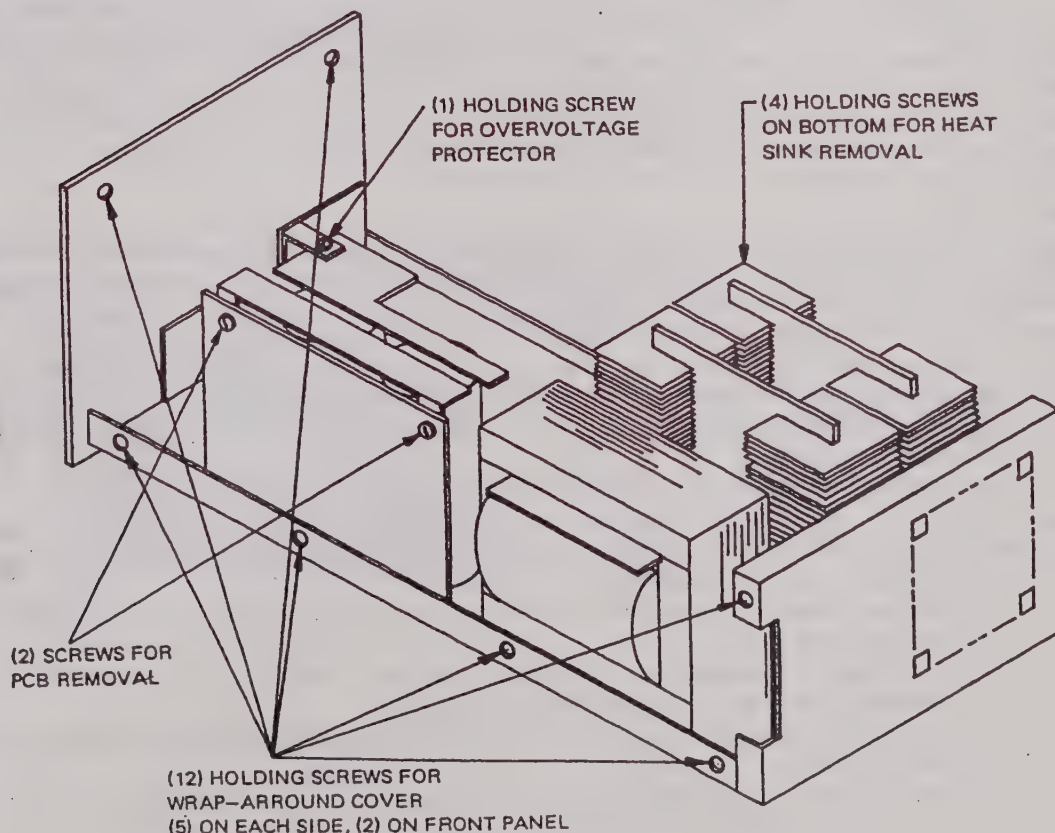

FIG. 5-1 DISASSEMBLY, JQE HALF-RACK MODELS.
5-3 DISASSEMBLY (Refer to FIG. 5-1)
- a) **COVER REMOVAL** The wrap-around cover may be taken off by loosening and removing its twelve (12) holding screws, five (5) on each side and two (2) on the front panel.
- b) **CIRCUIT BOARD REMOVAL** The printed circuit board is mounted with two (2) screws, which are removed from the side. After removal of the four printed circuit board connectors, the board may be lifted from its slide-guide.
- c) **HEAT SINK REMOVAL** The heat sink assembly is mounted with four (4) screws to the chassis bottom. After the screws are taken out, the wires may be removed by means of the "quick disconnect" terminals.
- d) **OVERVOLTAGE PROTECTOR (A4) REMOVAL** (On Models with suffix- "VP" only). Remove the holding screw as indicated (Refer to FIG. 5-1) and lift assembly out.